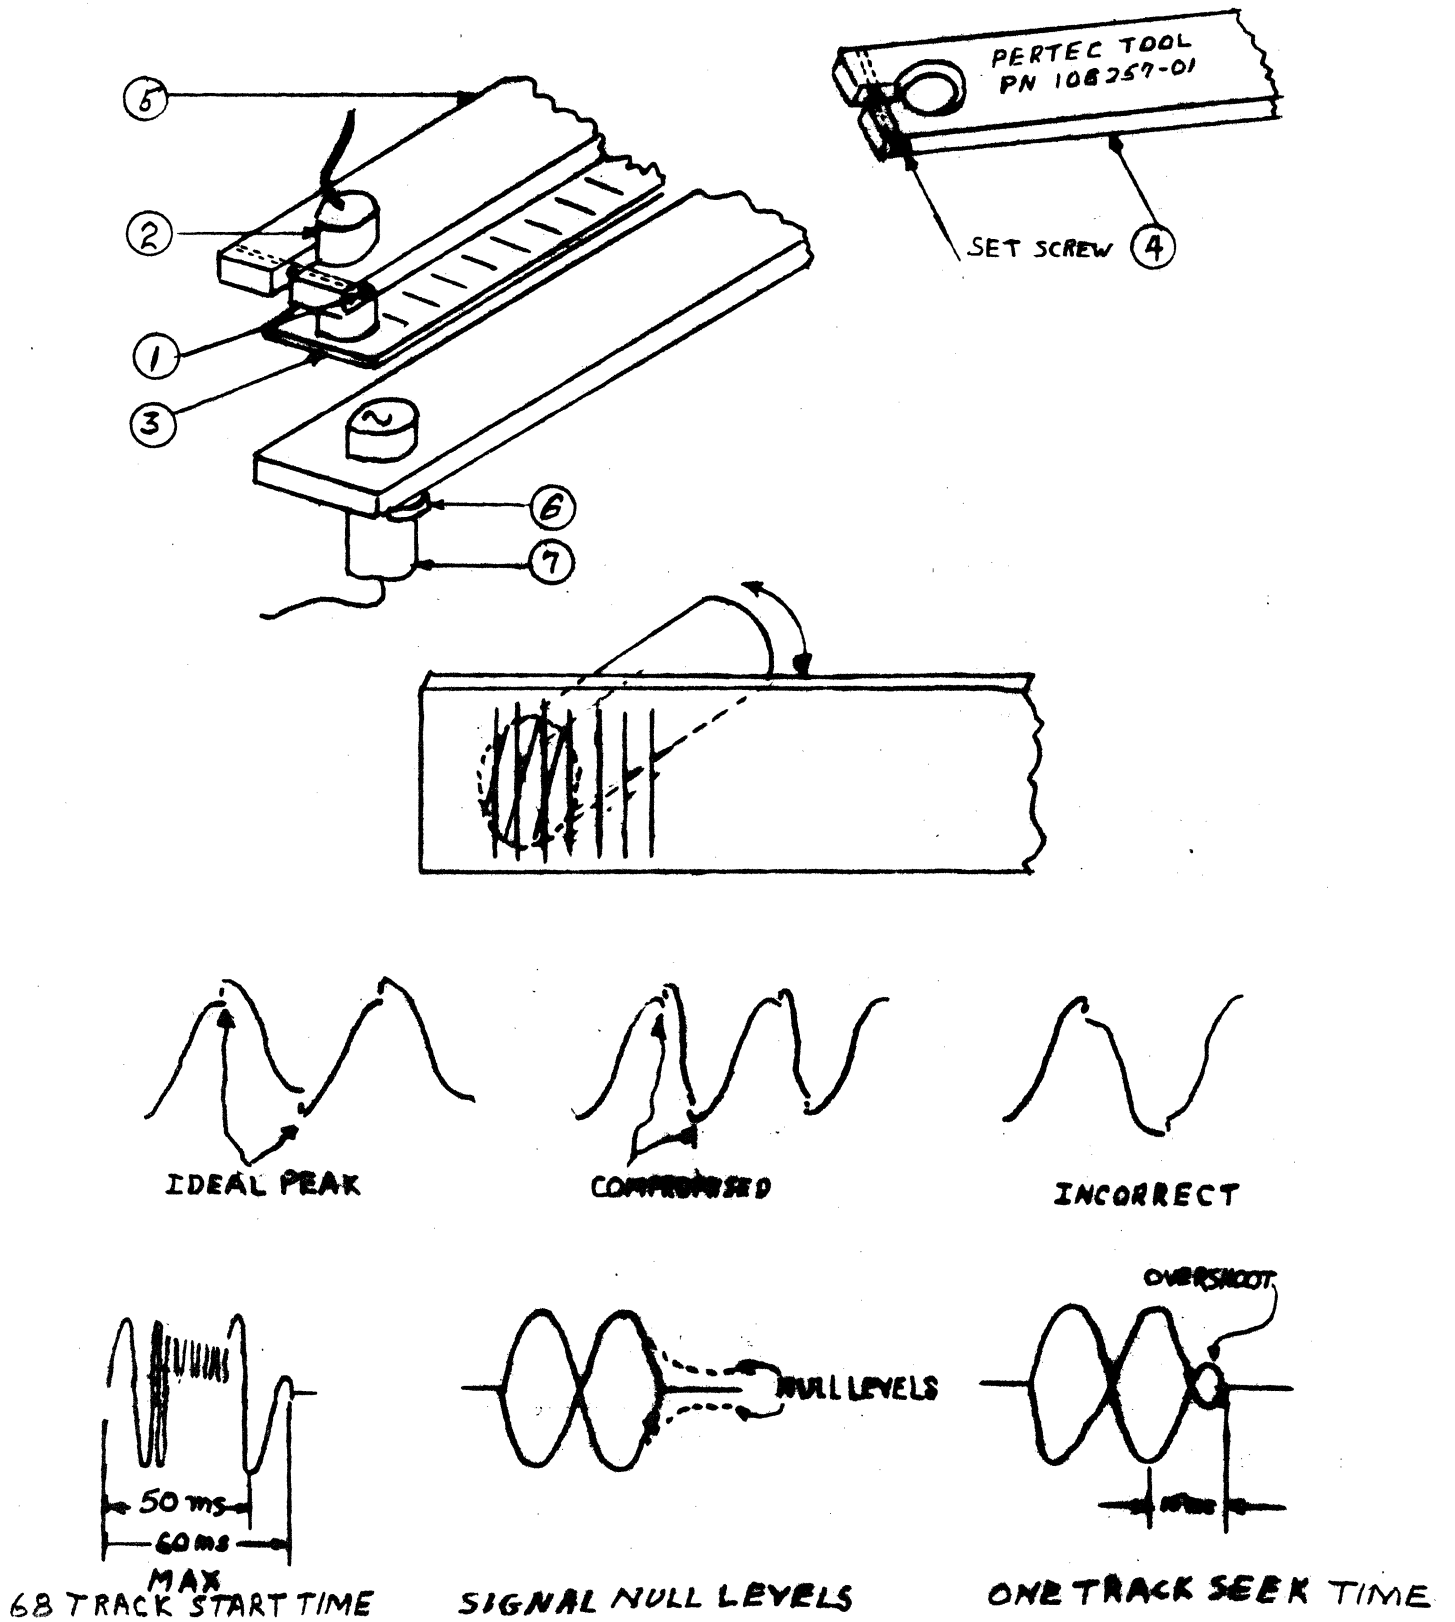
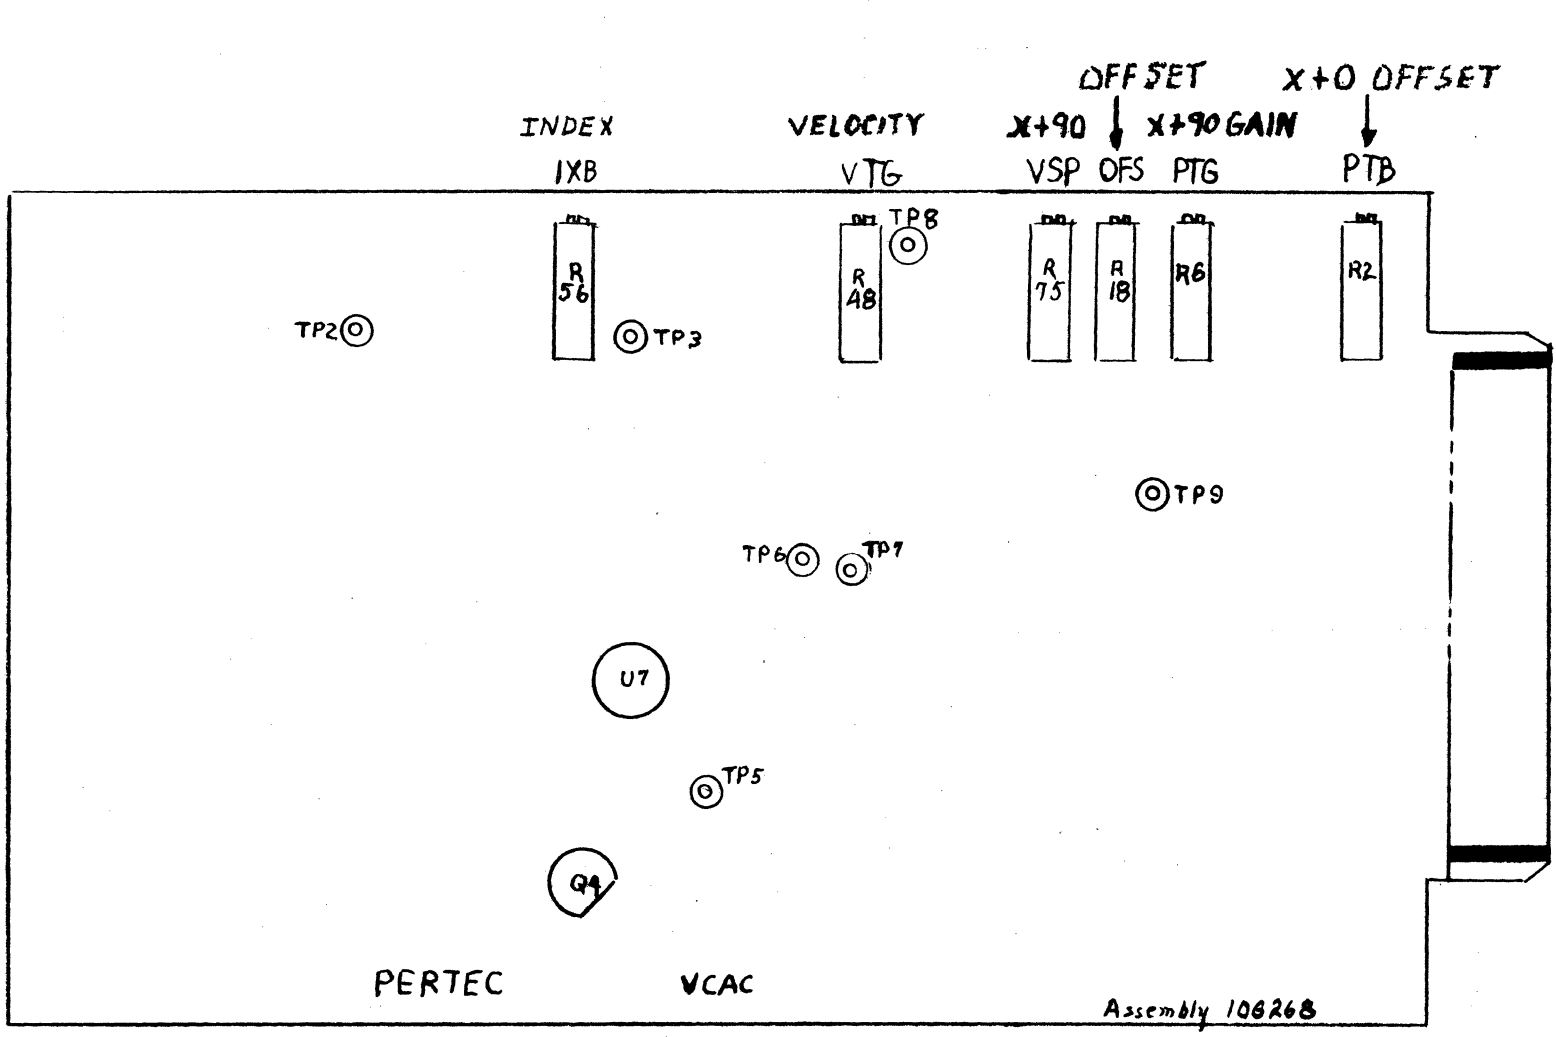

Figure A-1. Photocell Alignment and Related Waveforms
Figure A-2. Test Points and Servo Adjustment Locations on VCAC Board
- (1) Loosen socket head screw, (① Figure A-1).
- (2) Move photo pickup vertically to establish a  $0.010 \pm 0.003$  inch gap between pickup (② Figure A-1) and the lined glass slide (③ Figure A-1). Proceed with the graticule adjustment.
Position the photocell pickup (② Figure A-1) as follows.
- (1) Loosen retaining screw in the positioning tool and slip the tool down and around photocell and tighten.
- (2) Loosen holding screw (① Figure A-1) on the positioning arm.
- (3) As the heads are moved out, rotate the photocell pickup until the shadows created by the intersection of the slide lines and the graticule lines appear to be three lines moving to the left as viewed from the front of the disk.
- (4) Maintain gap distance of  $0.010 \pm 0.003$  inches between glass slide and the pickup.
- (1) Connect oscilloscope to VCAC TP-7. Refer to Figure A-2.
- (2) Rotate positioning tool to obtain a maximum output signal from photocell.
- (3) Secure photocell by tightening holding screw (① Figure A-1).
- (4) Loosen lamp retaining nut (⑥ Figure A-1) by using an open end wrench.
- (5) Rotate the lamp (⑦ Figure A-1) until a signal at TP-7 is centered about ground.
- (6) Tighten retaining nut (⑥ Figure A-1).
- (1) Connect oscilloscope to VCAC TP-9. Refer to Figure A-2.
- (1) Connect oscilloscope input channels A and B to VCAC TP-7 (X + 90 analog) and to VCAC TP-2 (X + 0 digital). See Figure A-2.
- (2) Set oscilloscope to internal Sync.
- (3) Set oscilloscope switch to add algebraically, channels A and B.
- (4) Move heads slowly FORWARD and observe the waveform. The waveform, as shown in Figure A-1, should approach either the IDEAL or COMPROMISE condition. If the waveform does not represent the IDEAL or COMPROMISE condition, perform Step (6). The digital waveform at TP-2 should occur as close as possible to the analog peak shown at TP-7.
The incorrect waveform of Figure A-1 illustrates a waveform that is  $180^{\circ}$  out of phase.
- (5) Loosen the holding screw on the positioning arm (① Figure A-1).
- (6) Rotate the positioning tool until the IDEAL or the COMPROMISE waveform is obtained.
- (7) Tighten the holding screw on the positioning arm
(① Figure A-1).
- (8) Remove the positioning tool.
- (9) Recheck X + 90 Adjustment, Step (5).
- (10) Recheck X + 0 Adjustments.
- (1) Connect oscilloscope to VCAC TP-9 and VCAC TP-8, Figure A-2.
- (2) Sync internally on VCAC TP-8.
- (1) Connect oscilloscope to VCAC TP-6, Figure A-2.
- (2) Move the positioner out to the "heads loaded" position. Moving the positioner back and forth in this area will generate a signal at TP-6.